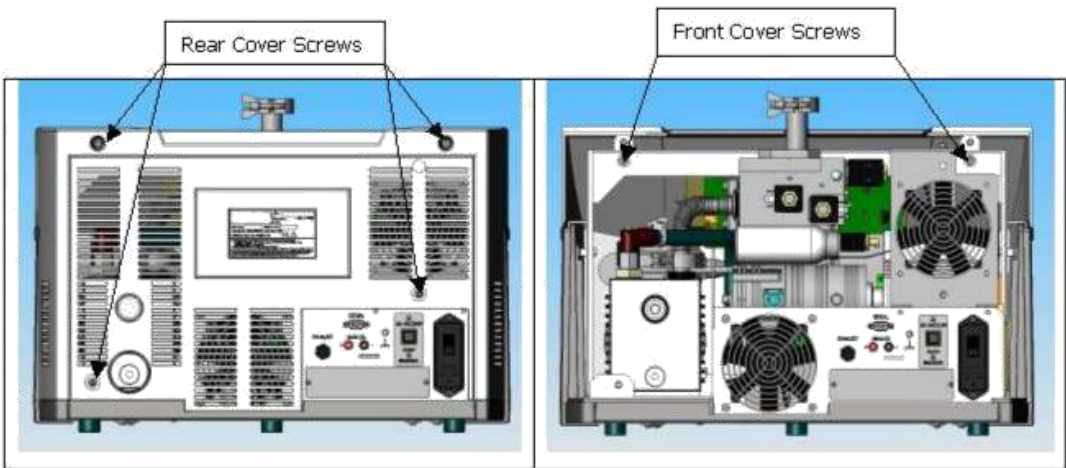

Figure 11: Covers
3. If a VS unit (top), using an extended length M5 Allen wrench (Figure 11: Covers).